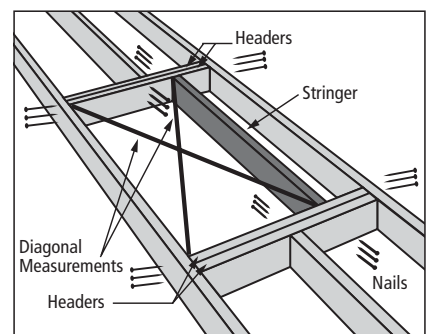

FIGURE 15
**(figure 15)**
- Locate double headers at each end of opening and secure with (3) 16d nails into each end of the headers.
- Secure using (3) 4" nails into each end of the stringer.